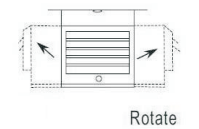

Figure 5
- To turn the unit horizontally when it has been installed with a single lag bolt (as shown in figure 3a), simply turn the entire heater as needed. (as shown in figure 5 – rotate). The unit cannot be turned horizontally if it has been installed with 2 lag bolts.